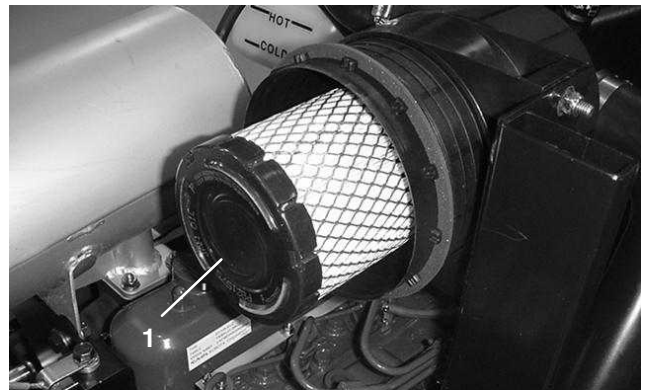

Figure 36
3. Remove and replace the primary filter (Fig. 36). Cleaning of the used element is not recommended due to the possibility of damage to the filter media. Inspect the new filter for shipping damage, checking the sealing end of the filter and the body. Do not use a damaged element. Insert the new filter by applying pressure to the outer rim of the element to seat it in the canister. Do not apply pressure to the flexible center of the filter.